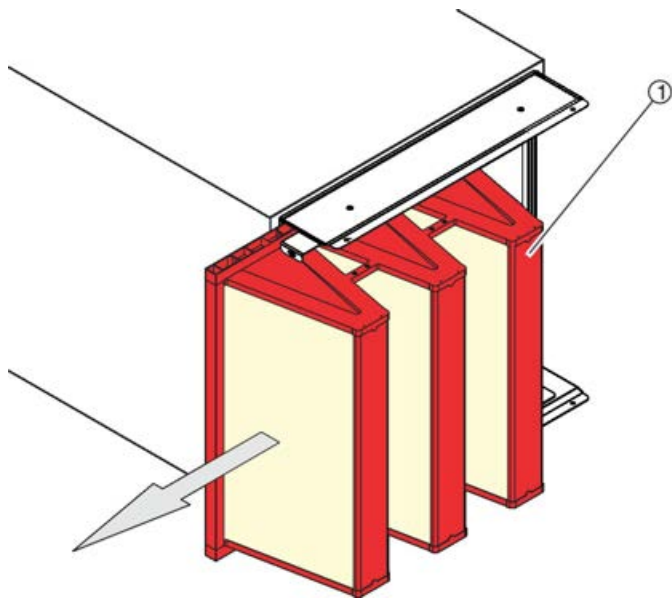

Fig. 25: Removing the filter element
5. ▶ Pull out the filter element (Fig. 25 /1) sideways.